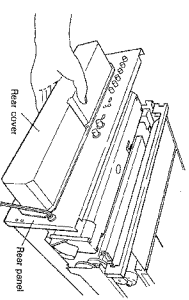

Fig. 2. Temporarily reposition the rear panel.
- ② How to play the unit with the rear panel removed
- There is a PLAY SW in the rear cover. However, because the tray stop position is no longer set when the rear cover is removed, it is dangerous to play a disc. The disc clamp will not work. Consequently, it is important to play a disc with the rear cover removed. You must first properly put the rear cover back in place and check to make sure that disc-declaring is complete before removing the panel once again. (It is not necessary to refix the screws for the rear panel during this procedure.) (Fig. 2)
- ③ How to reverse the mechanism assembly